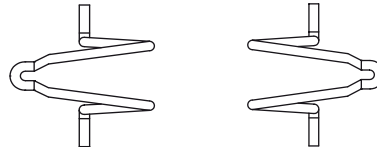

Fig. 44
- Pair of connector retention clips HZZ01209-G; see fig. 44